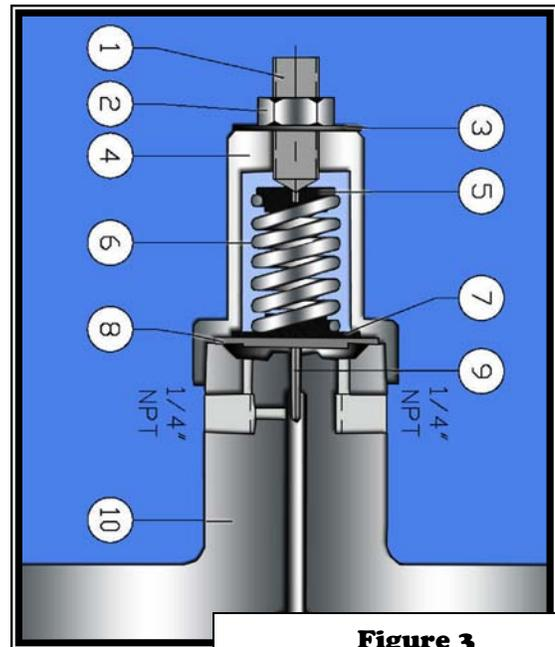

Figure 3
3.4 IRD4SS Regulator Maintenance (See Figure 3)
(See Figure 3)